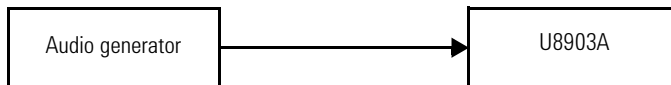

Figure 3-7 Audio generator to U8903A connection for residual IMD verification
- 1 Connect the audio generator to the U8903A input channel to be tested as shown in Figure 3-7. Preset both the U8903A and audio generator.